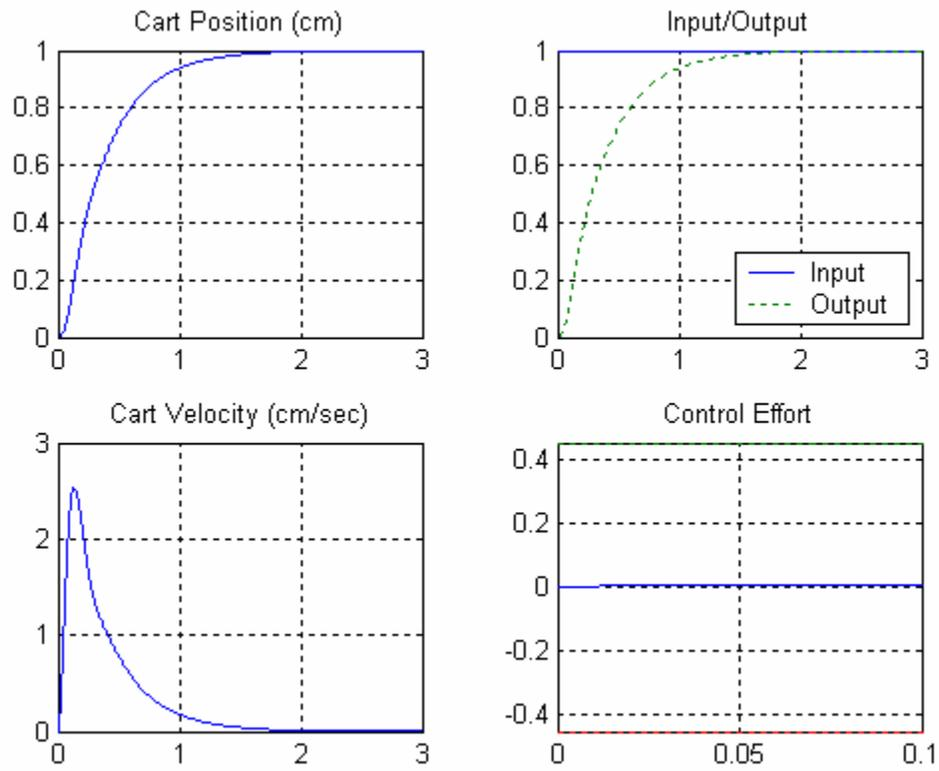

Figure 1. Step response of type one system using lqr algorithm.
b) Utilizing an lqr controller, the last Q penalty value is a penalty on the new (augmented) state. Using the command $k = \text{lqr}([0.1 \ 0 \ 1], 10)$ you should get the results displayed in Figure 1. Turn in your plot.